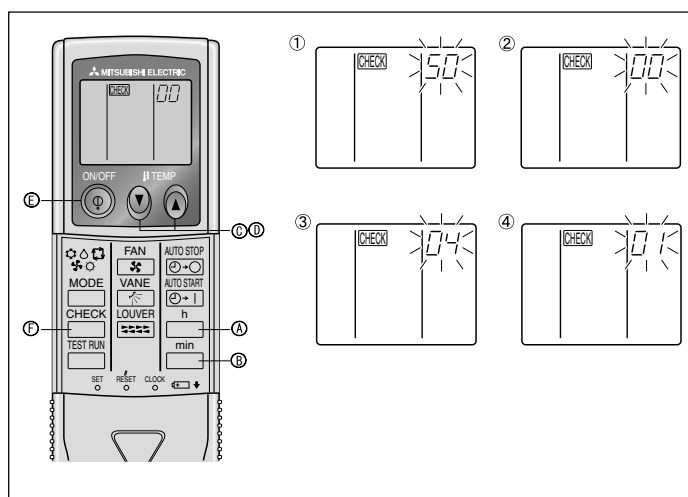

Fig. 6-7
⑧ Press the MODE button (E) and mode and the setting number (1) and (2) will change to being on constantly and the contents of the setting can be confirmed.
⑨ Press the FILTER (A) and TEST RUN (B) buttons simultaneously for at least two seconds. The function selection screen will disappear momentarily and the air conditioner OFF display will appear.
2) For IR wireless remote controller (Fig. 6-7)